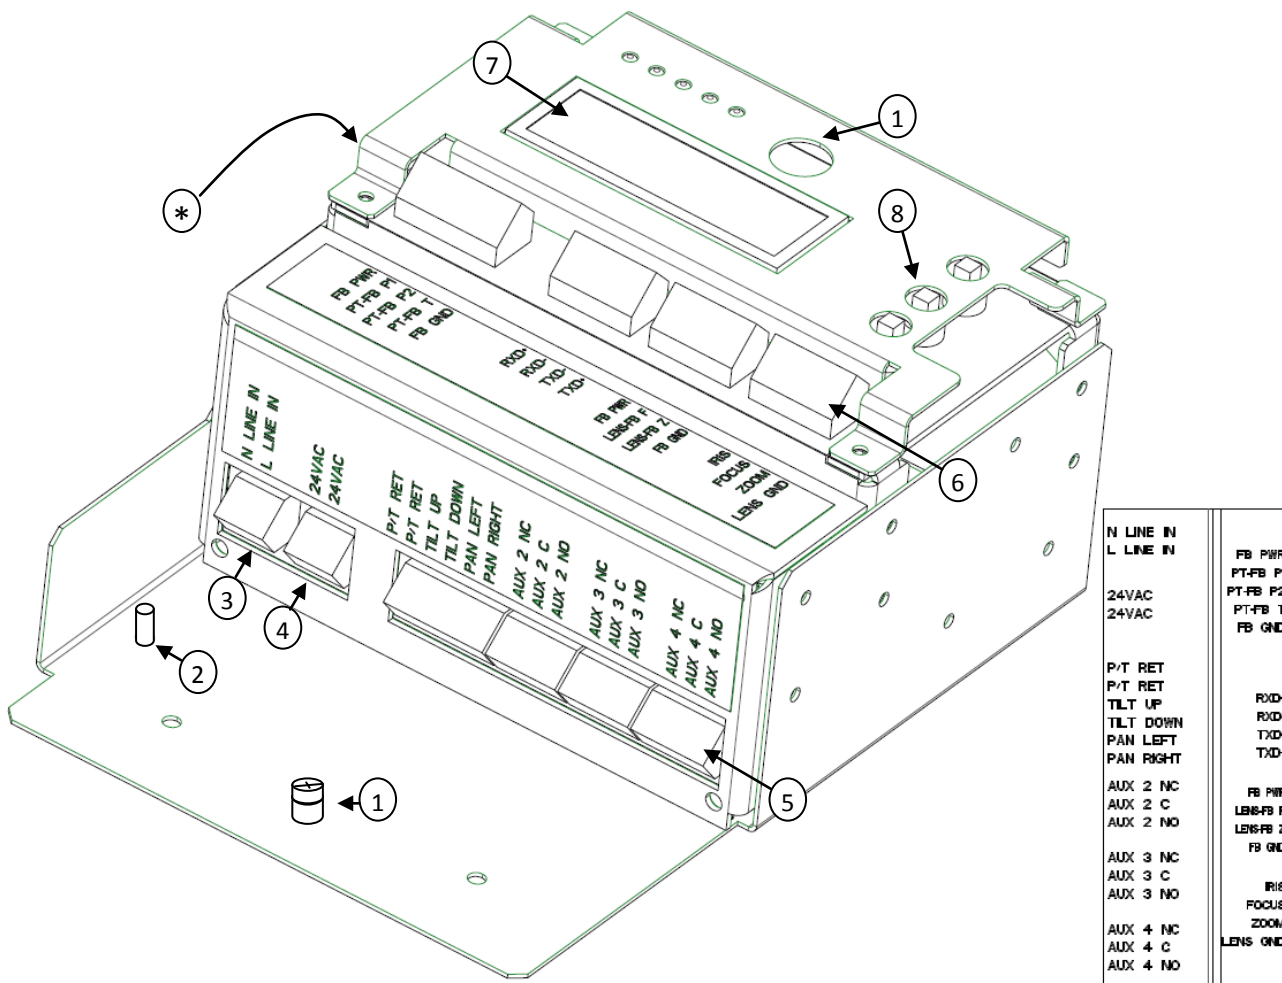

Figure 1 – RDU Chassis (removed from enclosure)
- 5.1.1. Remove the internal components from the enclosure before cutting any cable-entry holes. Unscrew the two Phillips captive screws (see Item 1, Figure 1) to remove the metal bracket assembly from the enclosure.
- 6.1.1.2. If using a RS232 controller, locate the wire harness in the hardware kit. The harness consists of three wires and a small 4-pin connector. Plug this connector into the RS232 port shown in Figure 1. Connect the “Tx” wire from the controller to the Blue wire of the harness. Connect the “Rx” wire from the controller to the Yellow wire of the harness. Connect the Ground wire from the controller to the Red wire of the harness.